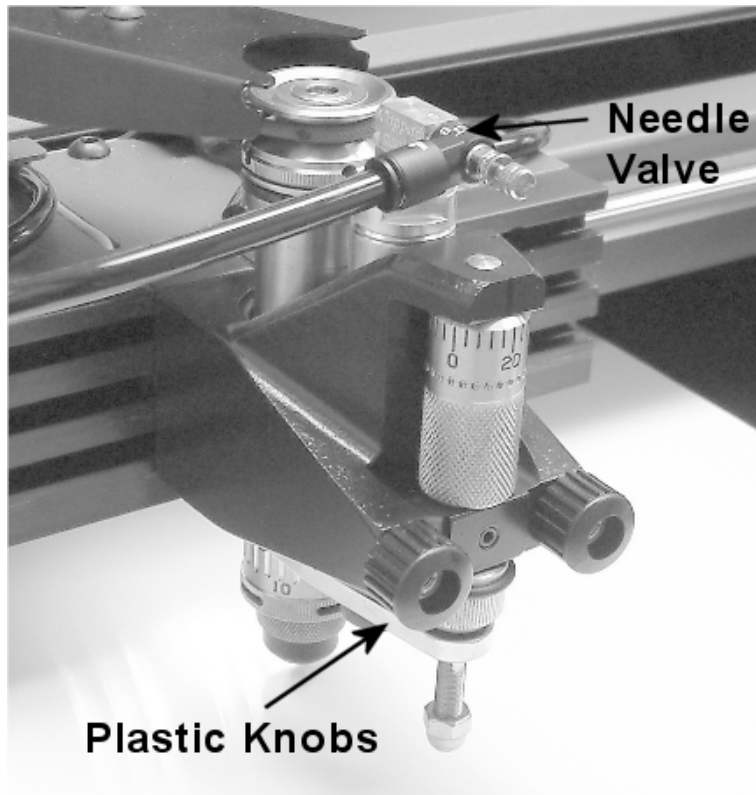
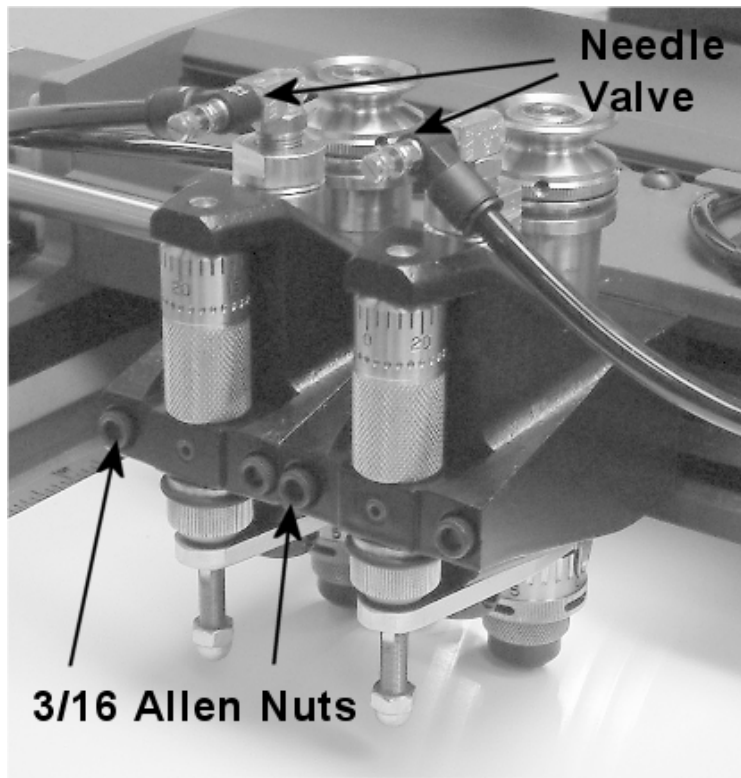

Figure 1
Figure 2
3. Secure the spindle to the T-slot. The larger plastic knobs provided with the 1/4 spindle to secure to the table's T-slot. The larger plastic knobs are intended for use with single rotary applications and or with a diamond spindle (Figure 1). The Allen nuts are intended to be used with two or more rotary spindles (Figure 2). The provided 3/16 hex key is used to secure the set used with applications requiring two or more spindles